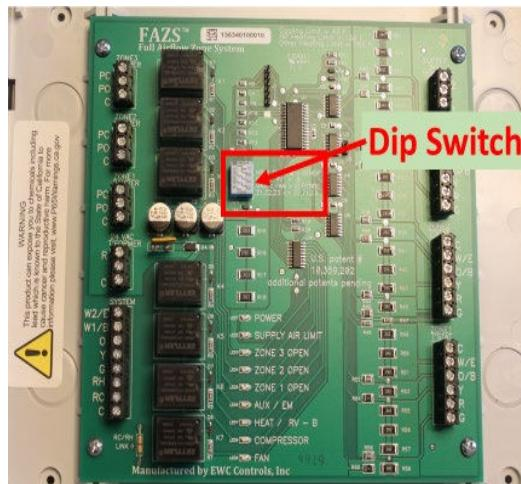
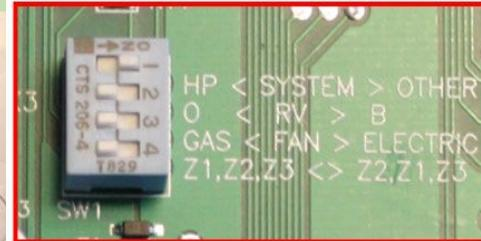

Figure 10: Location of Dip Switch on Control Board
Figure 11: Factory Dip Switch Setting Closeup
Dip switches are located in the top left center of the control board as shown in Figure 10. The Dip switches are numbered 1 through 4 on the board. A legend describing the function of each switch and the choice Left or Right, is printed next to the DS box, as shown in Figure 11. Detailed instructions for dip switch settings are provided below:
1. Top dip switch: **Factory setting to the right side** is good for all units except heat pumps. If the unit is a heat pump the dip switch should be moved to the left-hand position, Factory setting positions for all dip switches shown in Figure 11.